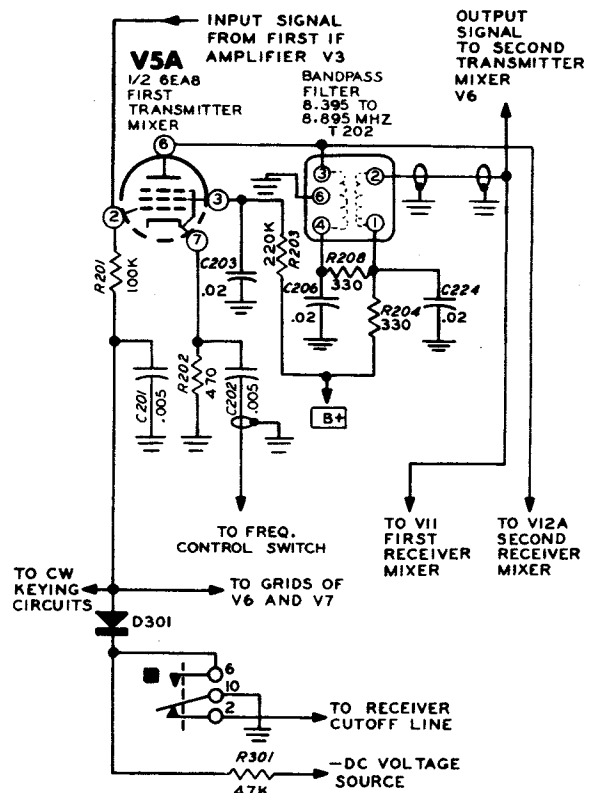

Figure 2-14
**First Transmitter Mixer (Figure 2-14)**